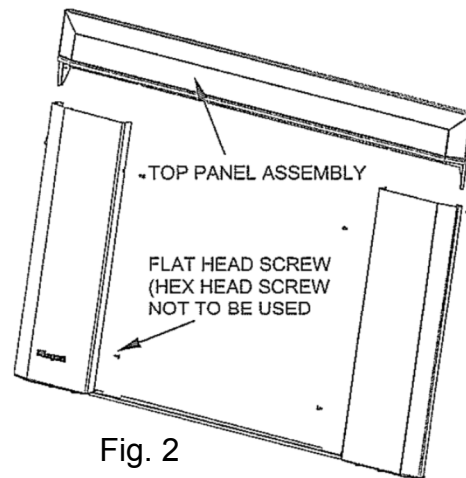

Fig. 2
3. Lower the top panel assembly into place with the locating prongs pointing down so that they fit inside the top edges of each side panel. Fasten the top panel to the case through the two holes in the lower flange of the top panel assembly. (see Fig.2)